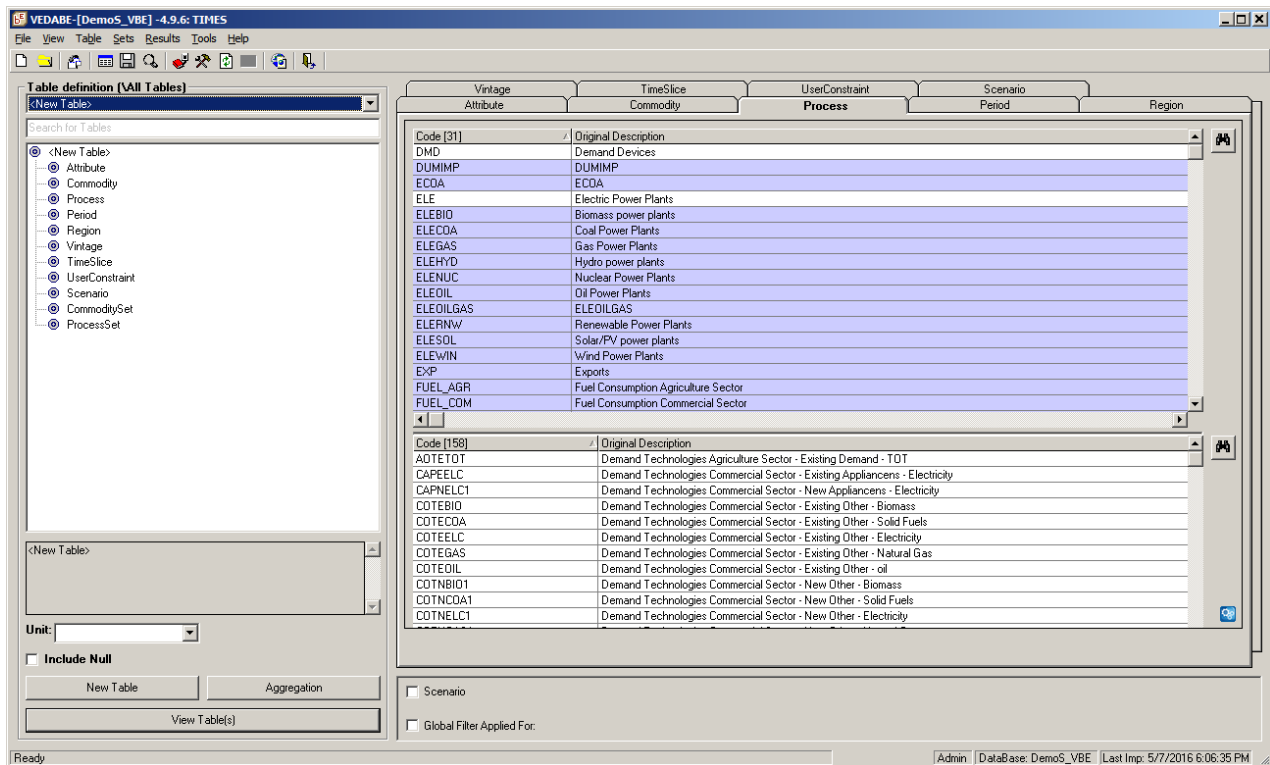

Figure 11: The *Process* tab, showing *process sets* above and *processes* below
The **Dimension tabs** organize all the items that are available to view in the VEDA-BE database. Each tab lists the available elements corresponding to that dimension. Note that for the **Process** and the **Commodity** dimensions, the tab is divided into lists of *sets* of items that TIMES and/or the user have defined (above) and the items themselves (below), as shown in Figure 11.
- **Process and Process Set (Figure 11):** a *process* is the generic name for a technology or an energy source or energy/emission sink. A *process set* is a group of processes defined by the model itself or by the user. Process sets are a convenient way to avoid having to list many processes when defining a table. They will be discussed in detail in Section 3.